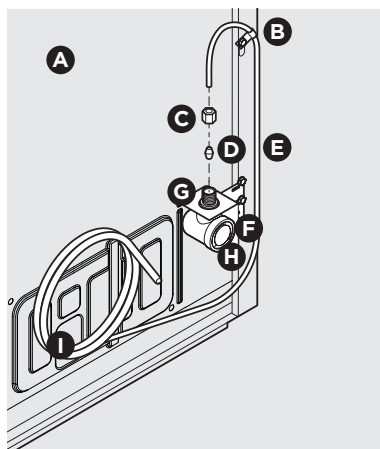
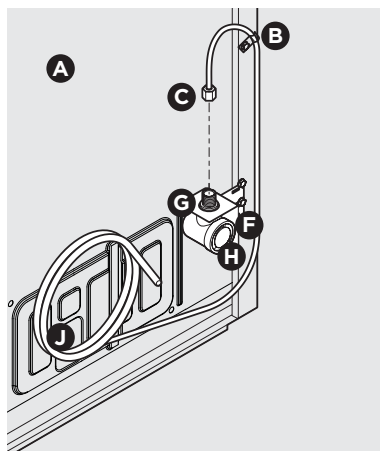

Figure 1
Figure 2
4. If you use **copper tubing** - Slide the brass compression nut, and then the ferrule (sleeve) onto the water supply line. Push the water supply line into the water valve inlet as far as it will go ($\frac{1}{4}$ "/6,4 mm). Slide the ferrule (sleeve) into the valve inlet and finger tighten the compression nut onto the valve. Tighten another half turn with a wrench; DO NOT overtighten. See Figure 1.
If you use **braided flexible stainless steel tubing** - The nut is already assembled on the tubing. Slide the nut onto the valve inlet and finger tighten the nut onto valve. Tighten another half turn with a wrench; DO NOT overtighten. See Figure 2.
B	Steel Clamp (Fig. 1: $\frac{1}{4}$ "; Fig. 2: $\frac{1}{2}$ ")